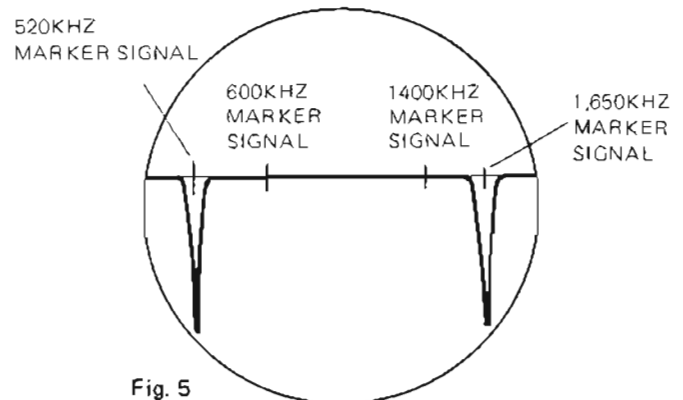

Fig. 5
- (1) With the variable capacitor fully closed, adjust T304 for 520kHz. Then, fully open the variable capacitor and turn AM OSC for 1,650kHz. Repeat the above adjustments two or three times so that the receiving range of 520kHz to 1,650kHz can be obtained.
- (2) The waveform displayed on the alignment oscilloscope is as shown in Fig. 5.